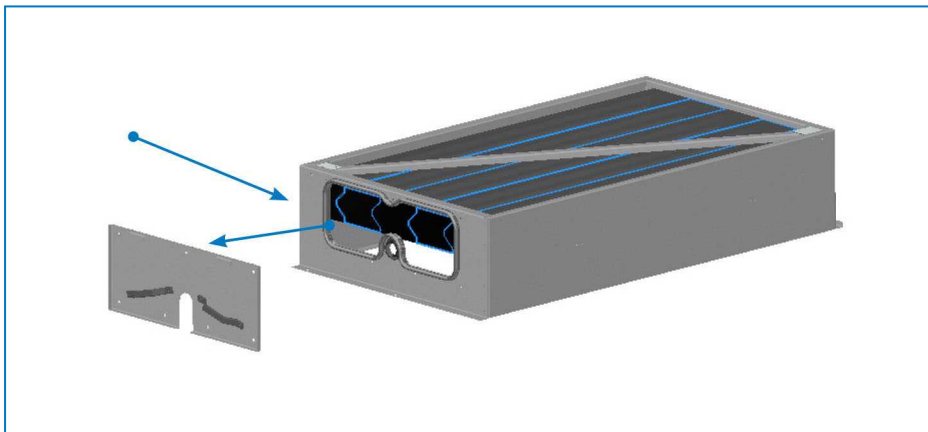

Fig. 4 Spray section with door panel removed
1. For 1c only: Install the upper spray header between the two rubber couplings. Slide the spray pipe into the bracket and ensure the nozzles are pointing downward. Place and install two rubber couplings at the top and bottom of the spray pipe. Replace the eliminators into the spray section, noting the original location and orientation. Replace the access panels (see figure 4). Repeat as necessary for all modules of the unit.